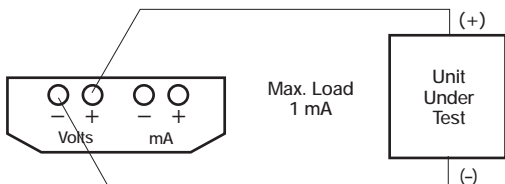

Figure 1
1. While operating in the voltage mode, the calibrator's output circuitry can sink or source up to 1mA max. Loads greater than 1mA may cause the calibrator to drop out of its accuracy specification. (See Figure 1)